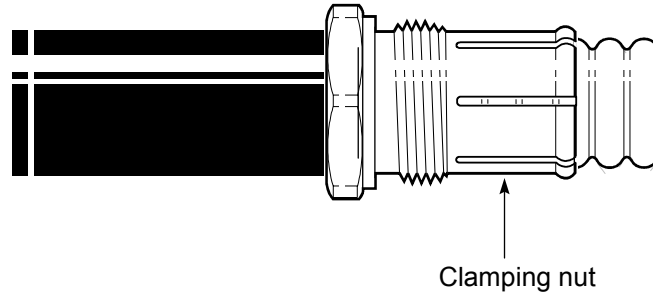

Figure 58 – Installing the clamping nut
4. Install the clamping nut on the cable by sliding it over the cable end until it is stopped by the O-ring. The fingers of the clamping nut should stop exactly half-way through a corrugation peak, as shown in *Figure 58*.